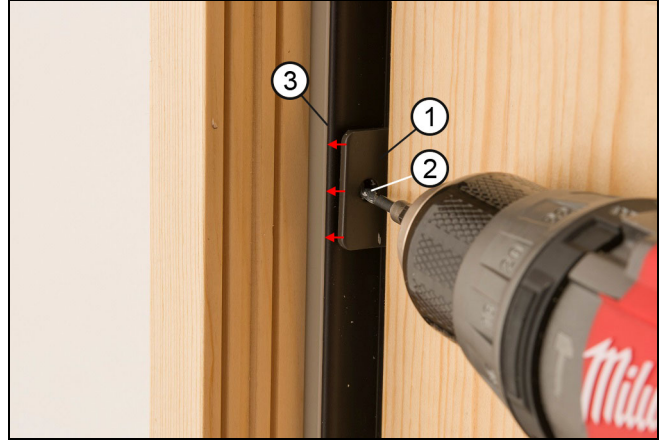

Figure 88
3. Flush the interior side of the jamb brackets with the interior side of the frame covers. Pre-drill with a 3/16" drill bit through the jamb only, then fasten the panel to the frame with a #8 x 3 1/2" screw. See Figure 88.